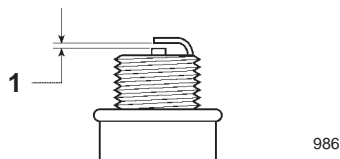

Figure 14
- Set the gap on the new plug to 0.030 in. (0.76 mm) (Fig. 14).